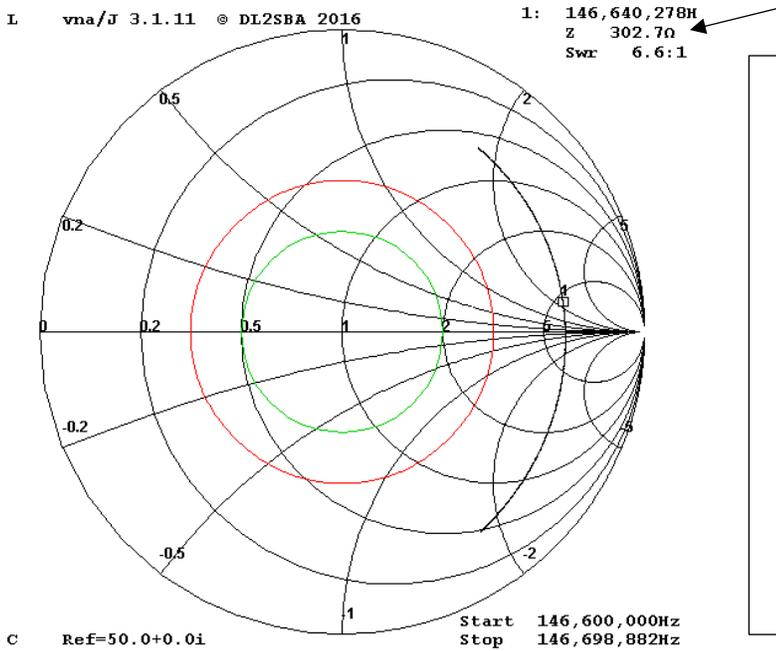
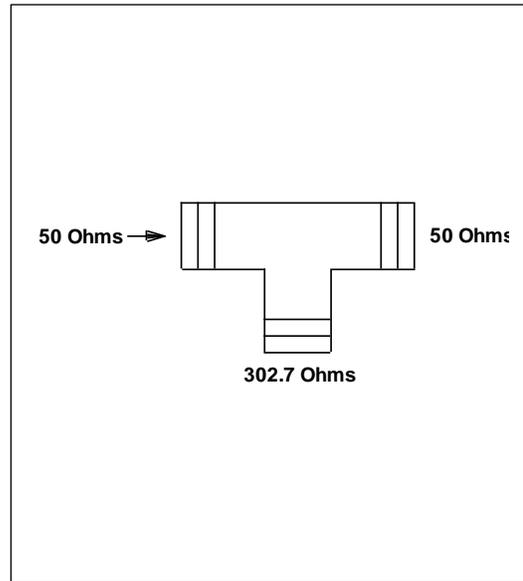

Figure 3
Figure 4
The VNA smith chart (Figure 3) shows that the cavity loop connector port has an impedance (Z) of 302.7 ohms when the resonator is tuned to 146.64 MHz's. This high impedance prevents the pass frequency from being absorbed by the cavity. See Figure 4. The RF energy of the 146.64 MHz signal would continue through the Tee connector to the load or antenna and not enter the cavity.